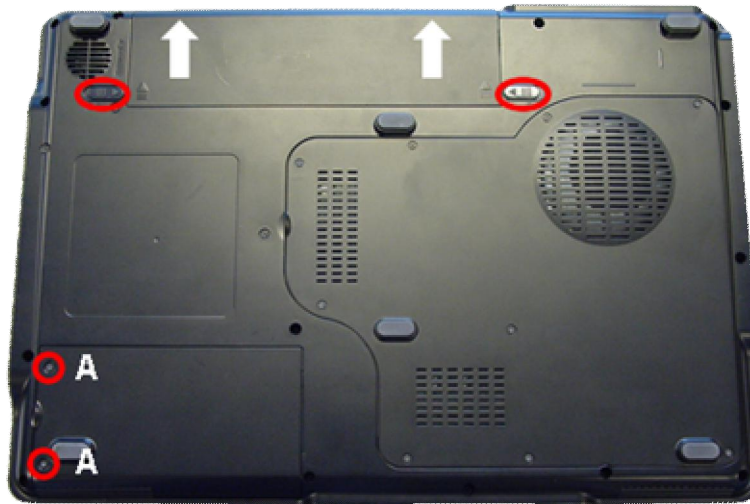

Fig. 1 The bottom base.
1. Remove two screws (2xA) from the HDD cover (as shown in Fig. 1).